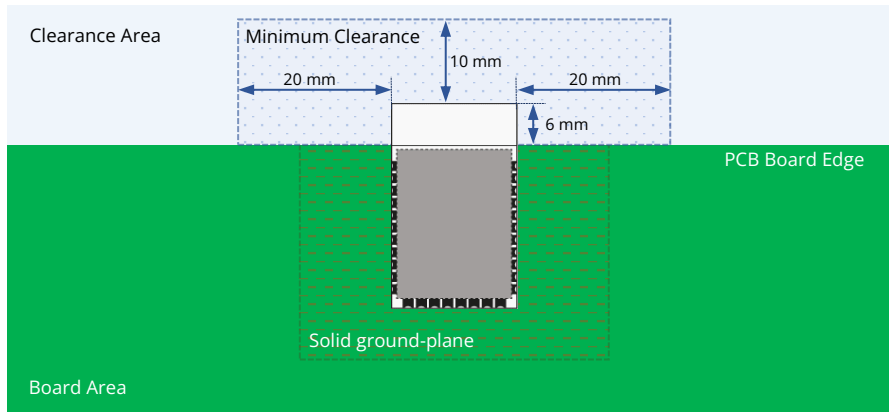

Figure 4 - Placement guidelines for RM-BE1-S device.
- Place the module at the edge of the PCB, as shown in Figure 4.